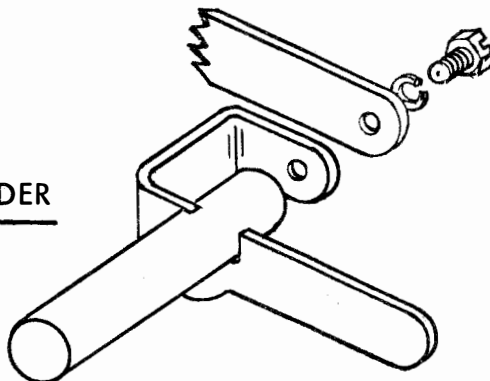

FIGURE 2
(4) Mount the 199929 tape guide under the roller on the tape winder. See Figure 2.
(3) Mount the 199929 tape guide under the roller on the tape winder. See Figure 2.